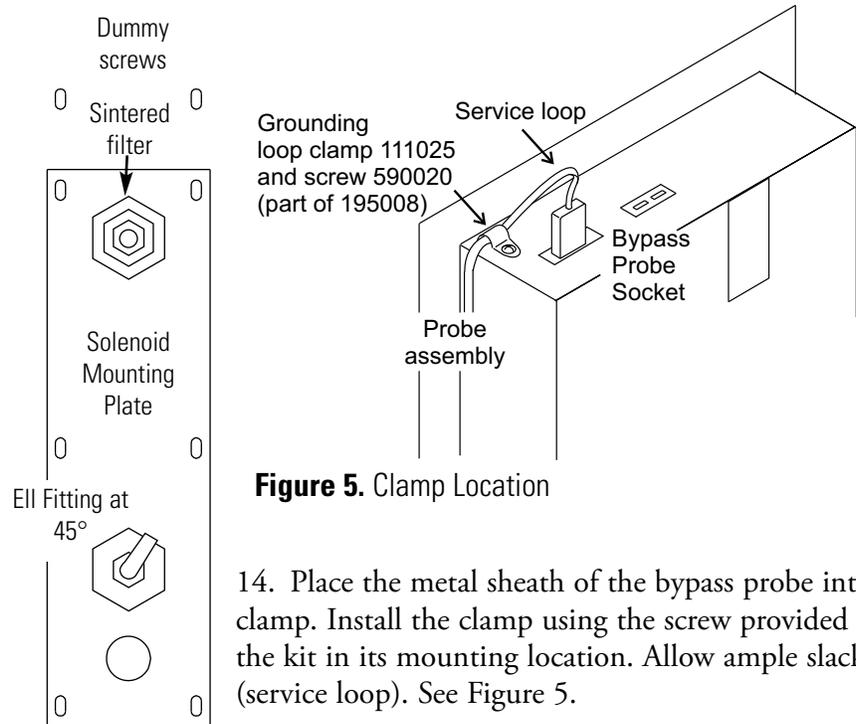

Figure 5. Clamp Location
13. Route the metal sheath of the bypass probe behind the main-board-to-display harness. Note the polarity of the male thermocouple plug and insert it into the bypass socket of the microprocessor board (see Figure 5).
14. Place the metal sheath of the bypass probe into the clamp. Install the clamp using the screw provided with the kit in its mounting location. Allow ample slack (service loop). See Figure 5.